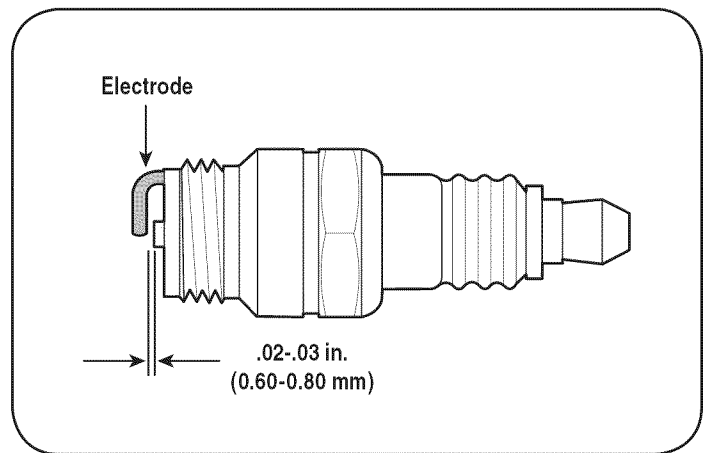

Figure 14
3. Measure the plug gap with a feeler gauge. Correct as necessary by bending side electrode. See Figure 14. The gap should be set to .02-.03 inches (0.60-0.80 mm).